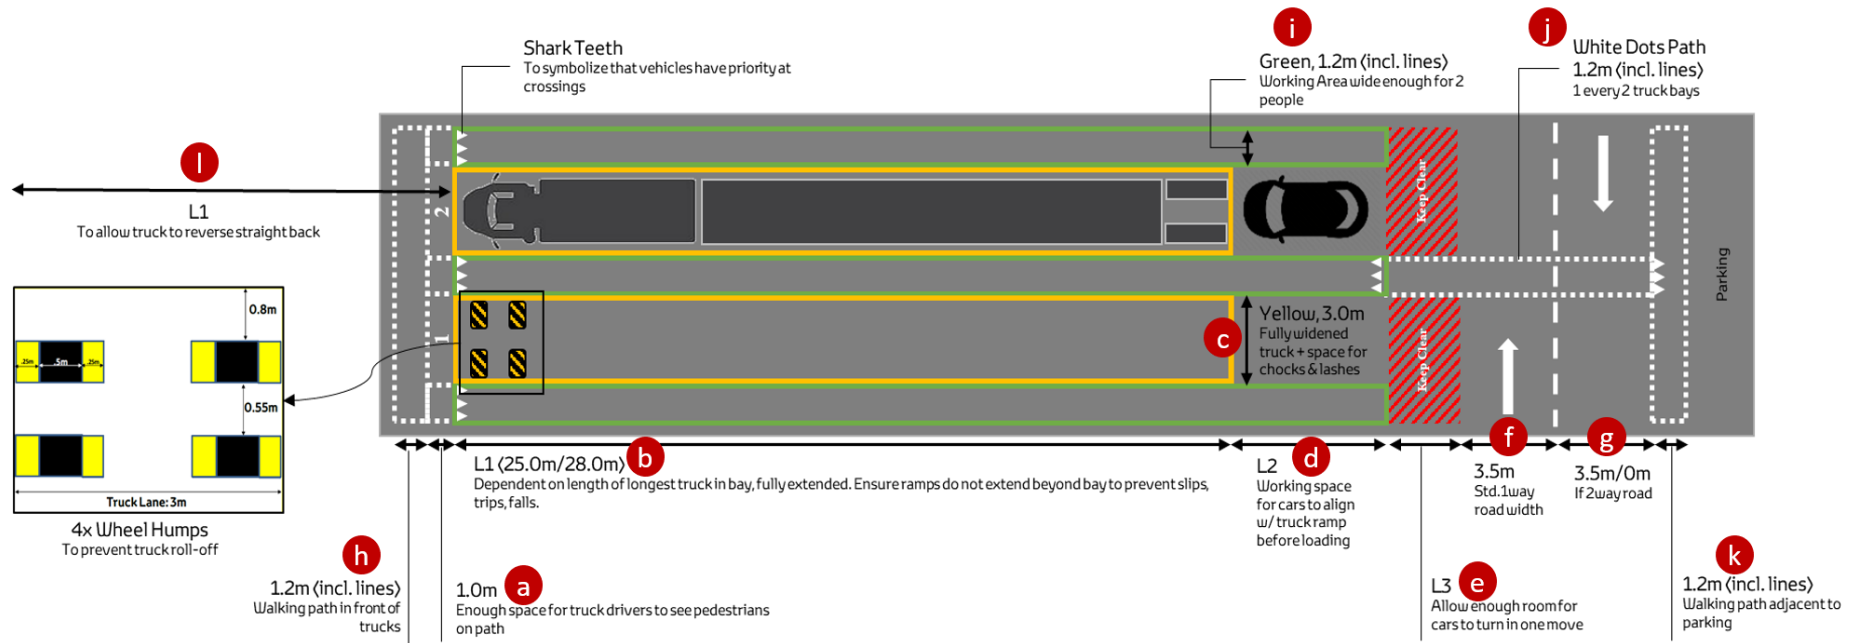

Figure 6a Layout of a truck loading area – **straight-reverse-in type**.
1. **Straight-reverse-in type** – Figure 6a
It is recommended that wheel humps be installed in each truck bay, as shown in Figures 6a-d. Wheel humps should not exceed 7cm in height (to prevent damage to cars loaded on trucks) and should be able to 'cup' the wheel to prevent truck roll-off in either direction.